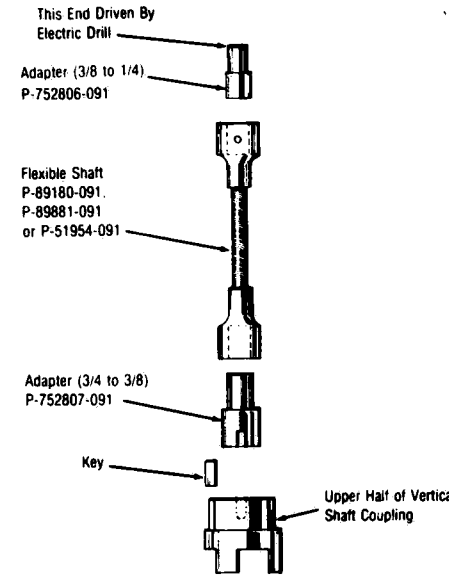

Figure 7-8. CLUTCH-DRIVE TOOL ASSEMBLY.
3. Refer to Figure 7-8 for view of clutch-drive tool. Insert adapters into flexible shaft, and assemble the half coupling and key (remove from vertical shaft) onto the 3/4 to 3/8 adapter. Mount 3/8 to 1/4 adapter end of drive-tool assembly into chuck of an electric drill.